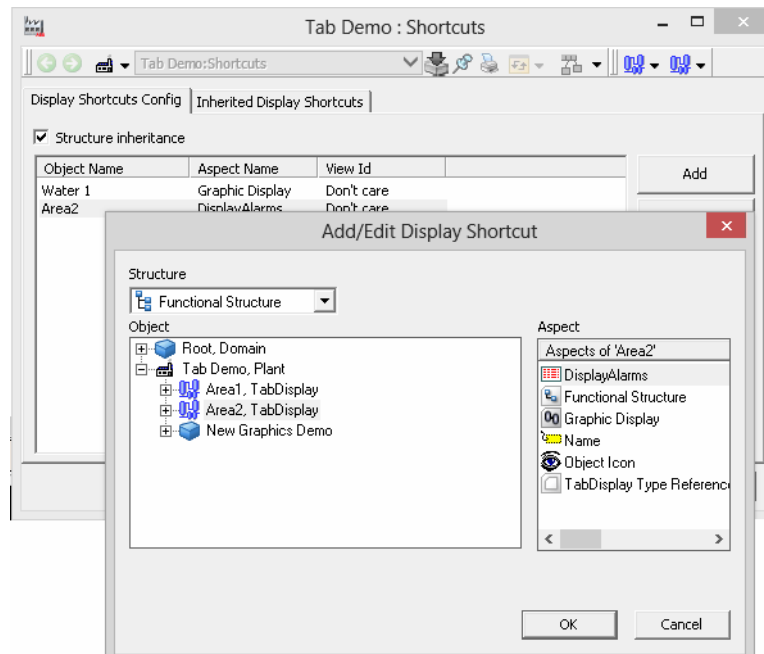

Figure 30. Add/Edit Display Shortcut Dialog Box
3. Select structure, object and aspect in the Add/Edit Display Shortcut dialog box, see Figure 30. Click **OK**, and the shortcut will be added to the Shortcut list.